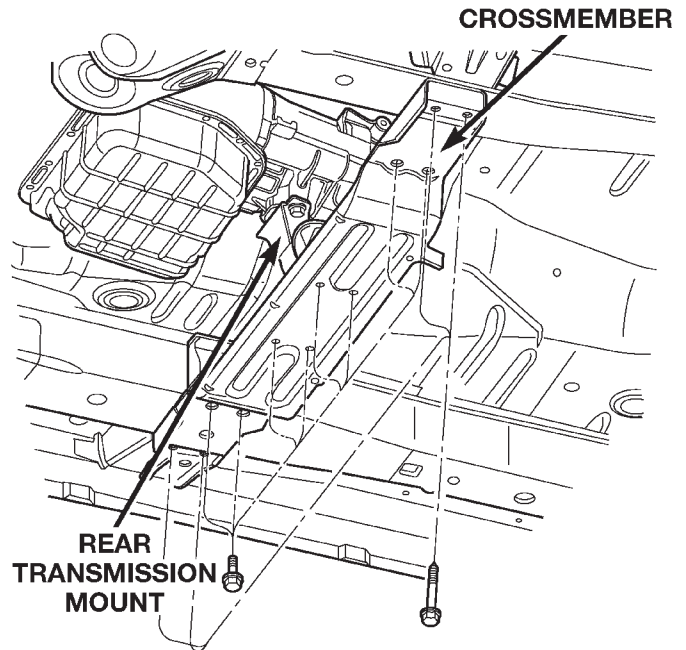

Fig. 18 Rear Transmission Crossmember
(24) Remove bolts securing rear support and cushion to transmission and crossmember (Fig. 18).
(25) Remove bolts attaching crossmember to frame and remove crossmember.